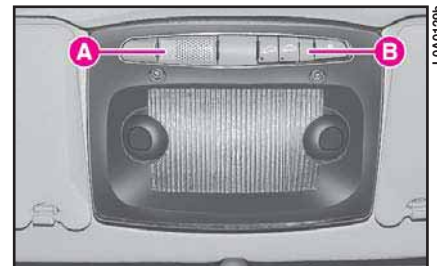

fig. 31
- 1) Remove the clipped in caps **A** and **B** (fig. 31) by levering with a screwdriver on the external part.